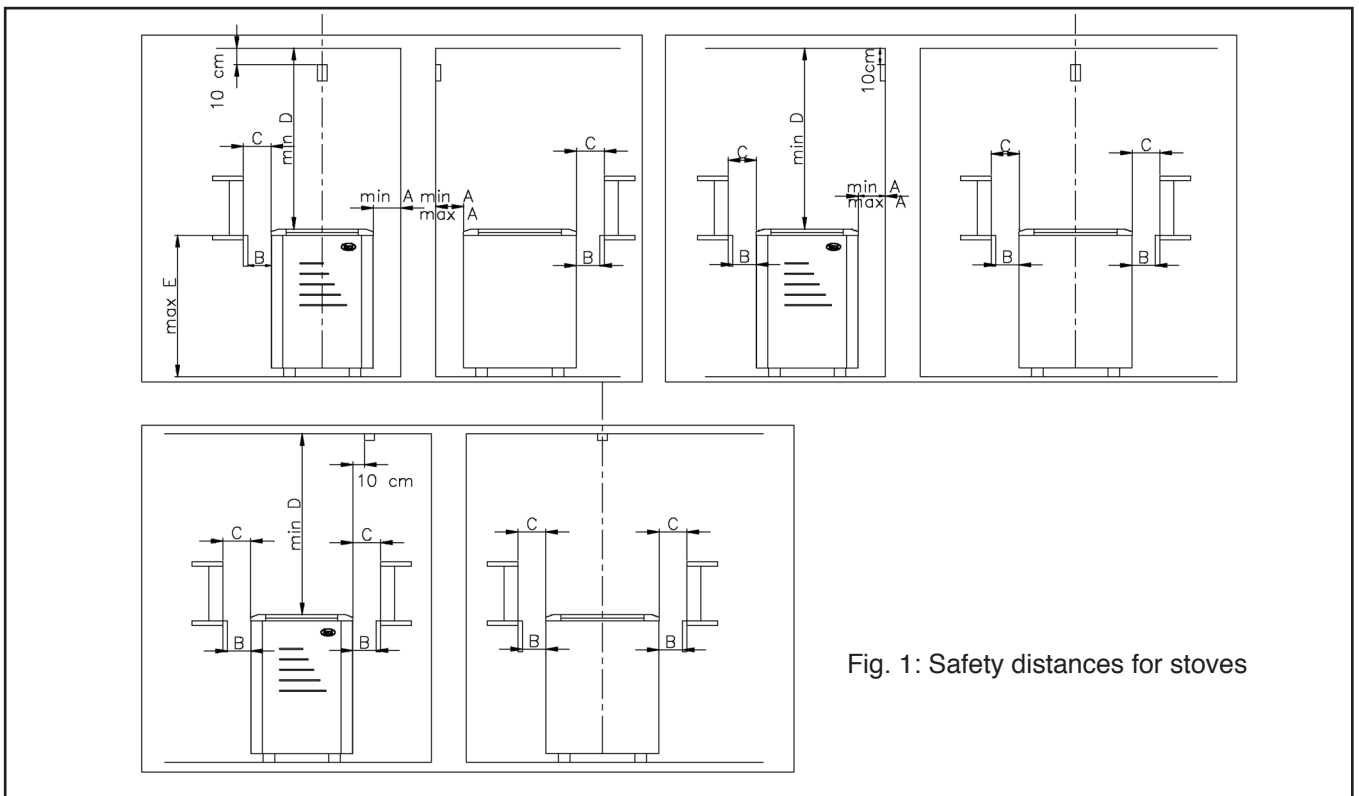

Fig. 1: Safety distances for stoves
**) See figure 1 *) Connected with rubber cable, type H07RN-F or corresponding cable